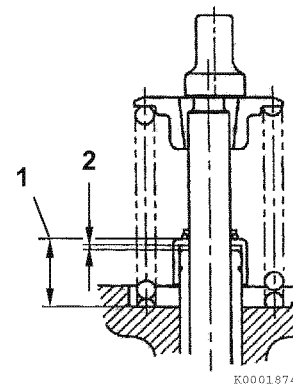

Figure 6-20
2. Measure the distance (1, **Figure 6-20**) from the machined spring seat surface of the cylinder head to the top of the valve stem seal to ensure there is proper clearance (2, **Figure 6-20**) between the guide and the seal. See *Intake/Exhaust valves, guides and seals* on page 6-5 for valve seal installed height specifications.